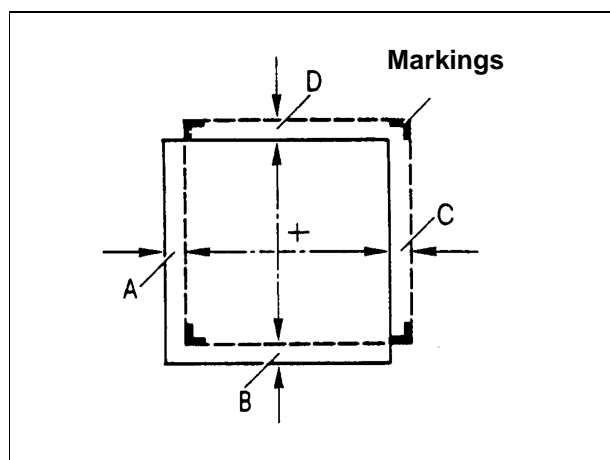

Fig. 13
- Develop the film and measure the deviation. Acceptable deviation  $\pm 1.7\%$  (Fig. 13).